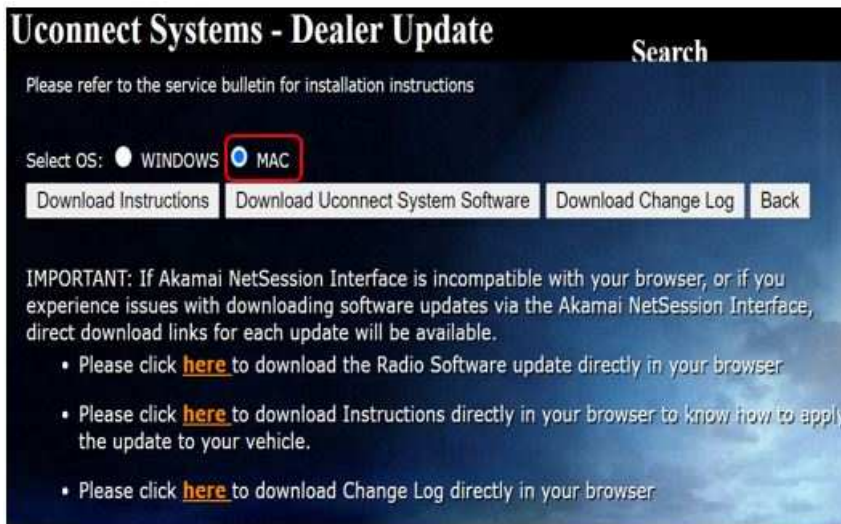

Fig. 3
6. Download the software update file to your local PC’s desktop. Make sure to select the “MAC” radial button for all downloads (Fig. 3) .